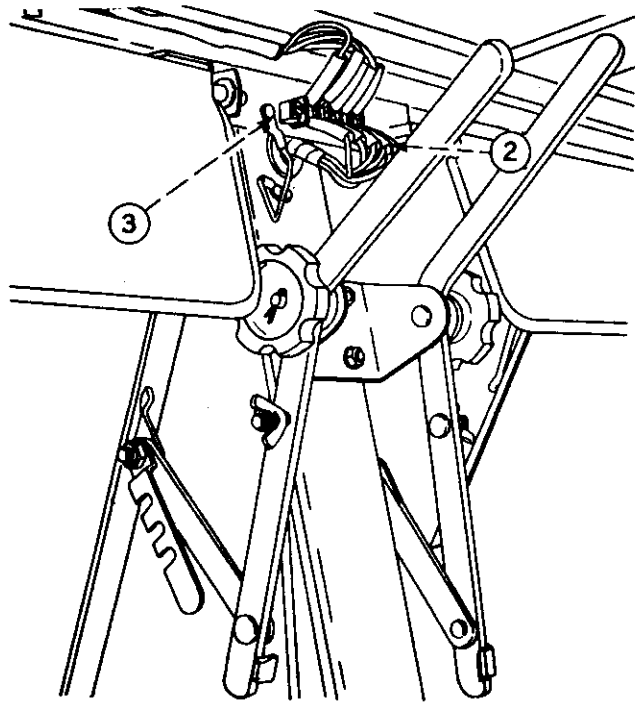

FIG 16 - CENTRE PILLAR CONNECTIONS
d. Disconnect the five lower pull/off terminals (item 2, fig 16) and disconnect the earth cable (item 3, fig 16).